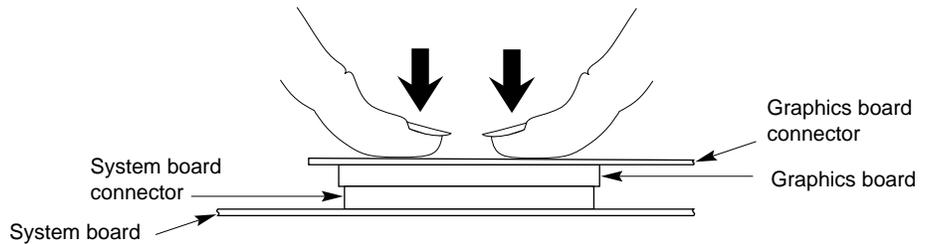

Figure 1-23 Seating the Connectors
4. Place your fingers or thumbs on the board above where the connectors are located, and press firmly until the two connectors fit snugly. The connectors must be touching along the entire shared surface. See Figure 1-23. If the board is not seated all the way, the screws will not tighten correctly.